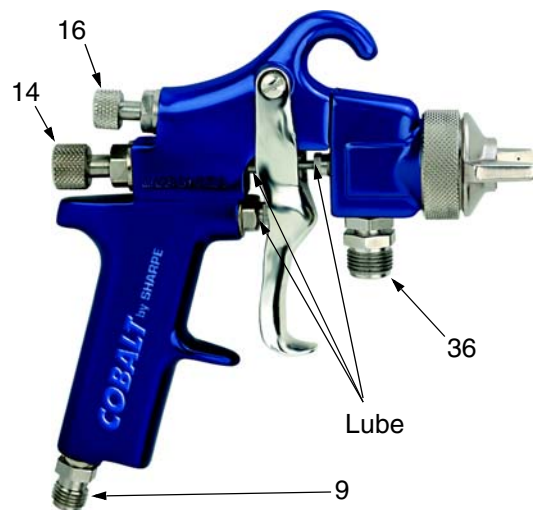

FIG. 1
2. Connect a clean, dry, filtered air supply to the gun air inlet (9). See FIG. 1, page 4.
1. Fill cup with material and connect to gun fluid inlet (36). See FIG. 1, page 4.
- Frequently lubricate the gun moving parts with a drop of non-silicone oil (part no. 8255). See FIG. 1.